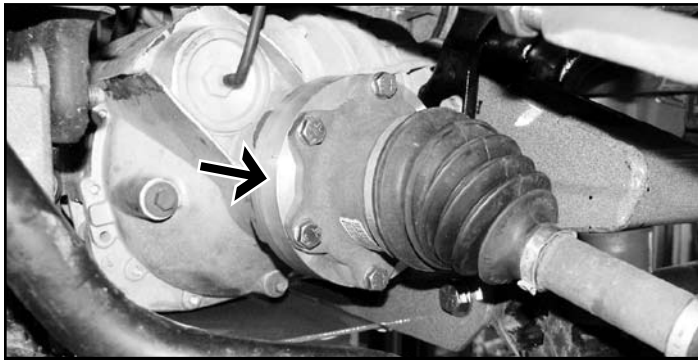

FIG. 16
50. Install the provided CV shaft spacers (01183) between the CV shaft and the differential. Fasten the CV shaft and spacers to the differential with 10mm x 70mm bolts and 10mm flat washers from bolt pack #540 (Fig 16). Use loctite on the bolt threads and torque them to 58 ft-lbs in a crossing pattern.